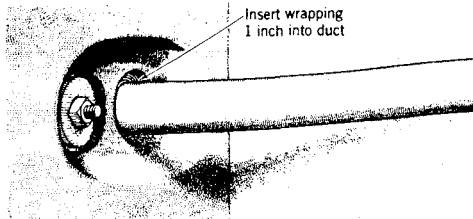

Fig. 3 — Placing Wrap in Duct
- (3) Raise the cable and push the tape wrapping along it to a point about 1 inch inside the face of the duct (see Fig. 3).